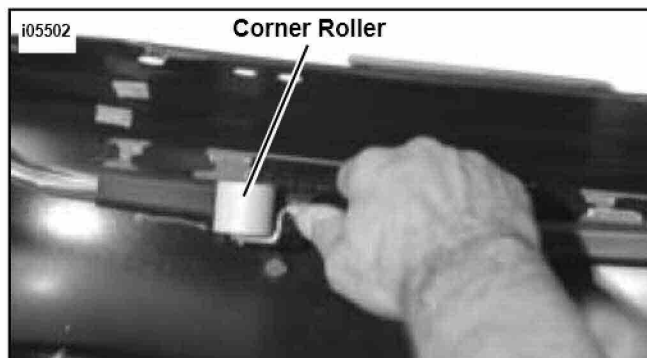

Figure 4. Use a Corner Roller to Purge Air between Adhesive and Fender
- f. See Figure 4. Use a wallpaper corner roller (available at most home improvement stores), to roll along the conduit to purge the air from adhesive and fender.